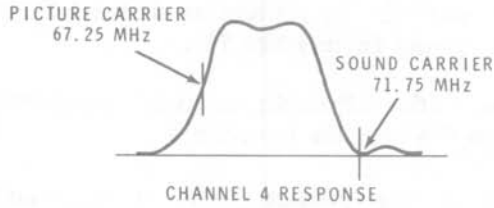

Figure 16C
- ( ) Adjust the VHF tuner according to the manufacturer's instructions for the correct response for channel 4 as shown in Figure 16C.